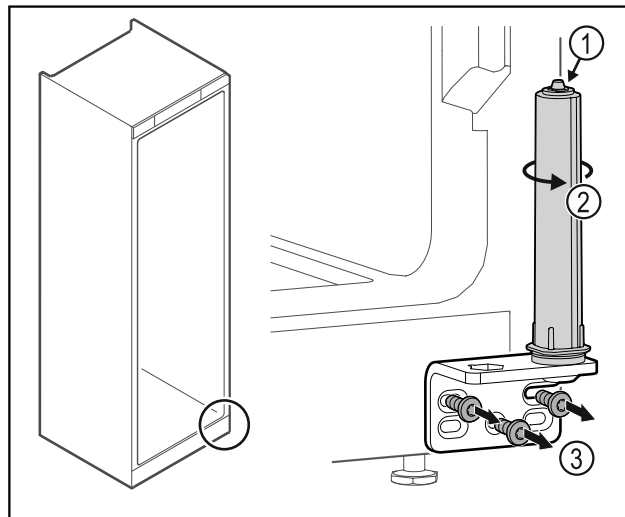

Fig. 37
- Do not disassemble the door closing system Fig. 37 (1).
- Turn the closing system Fig. 37 (2) until it clicks.
- Unscrew the hinge Fig. 37 (3).